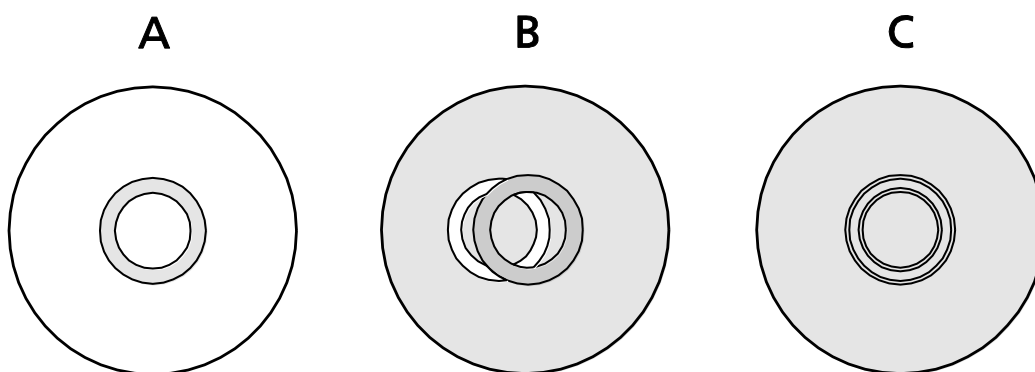

Fig. 4-4 Centering the Phase Ring Diaphragm (Bright in the Condenser) to the Phase Ring (Dark in the Objective)
The phase ring of the phase contrast objective appears as a gray ring in the bright pupil (Fig. 4-4/A).
The phase ring of the objective will appear centered in the field of view, while the bright phase stop may be off-center (Fig. 4-4/B).
- Use the relevant centering screws (Fig. 4-3/2) on the slider to line up the phase ring and the phase stop. Make sure that the gray phase ring of the objectives fully covers the bright phase stop (Fig. 4-4/C).